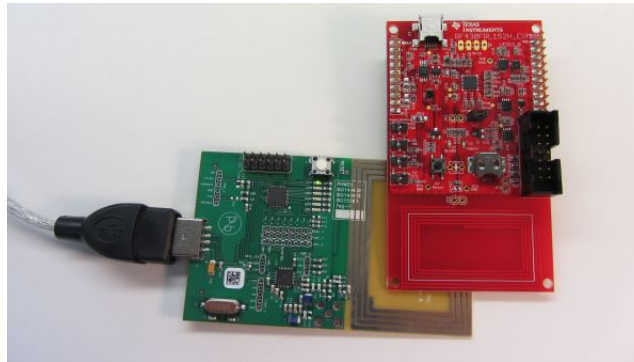

Figure 17. Position the EVMs
4. Position the RF430FRL152HEVM antenna on the antenna portion of the TRF7970AEVM as shown in Figure 17. It is recommended to have an insulator between the two antennas or to hold them at a distance from each other to prevent any short circuits.